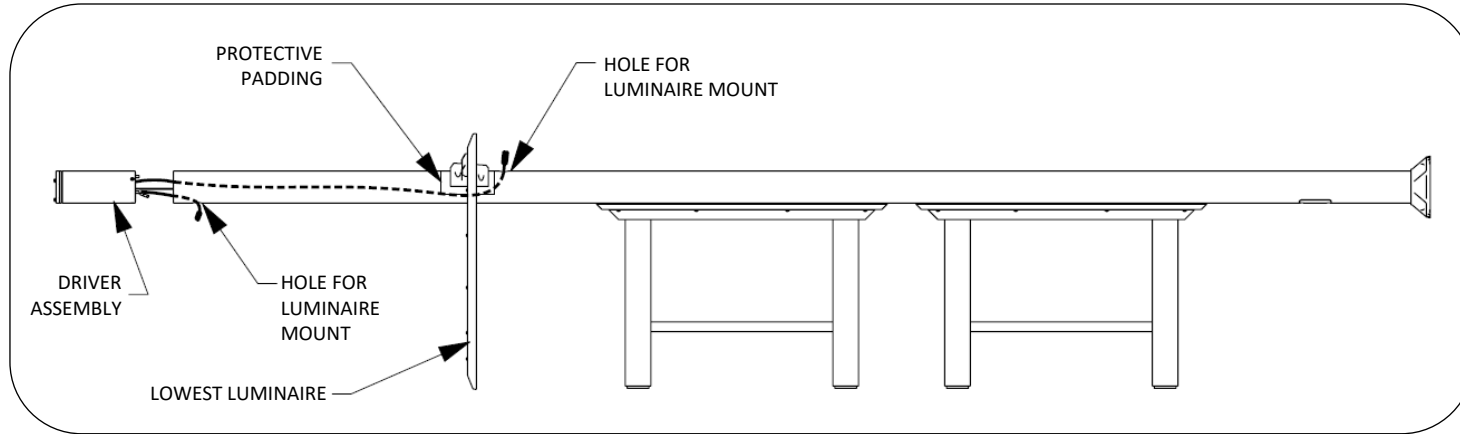

Fig. 7 – Install lowest luminaire
7. Route the wiring harness(es) down the pole to the appropriate holes in the pole for luminaire attachment. Wiring harnesses are different lengths according to luminaire mount locations. Pull the wiring harness connector through the luminaire mount hole on the pole. See Fig. 7.
8. Attach the driver housing to the adapter plate, alternating screw tightening until all screws are flush with the tube and snug. See Fig. 7.
10. Slide the luminaire into position, resting it on protective padding on the pole just above the mount hole location. See Fig. 7.